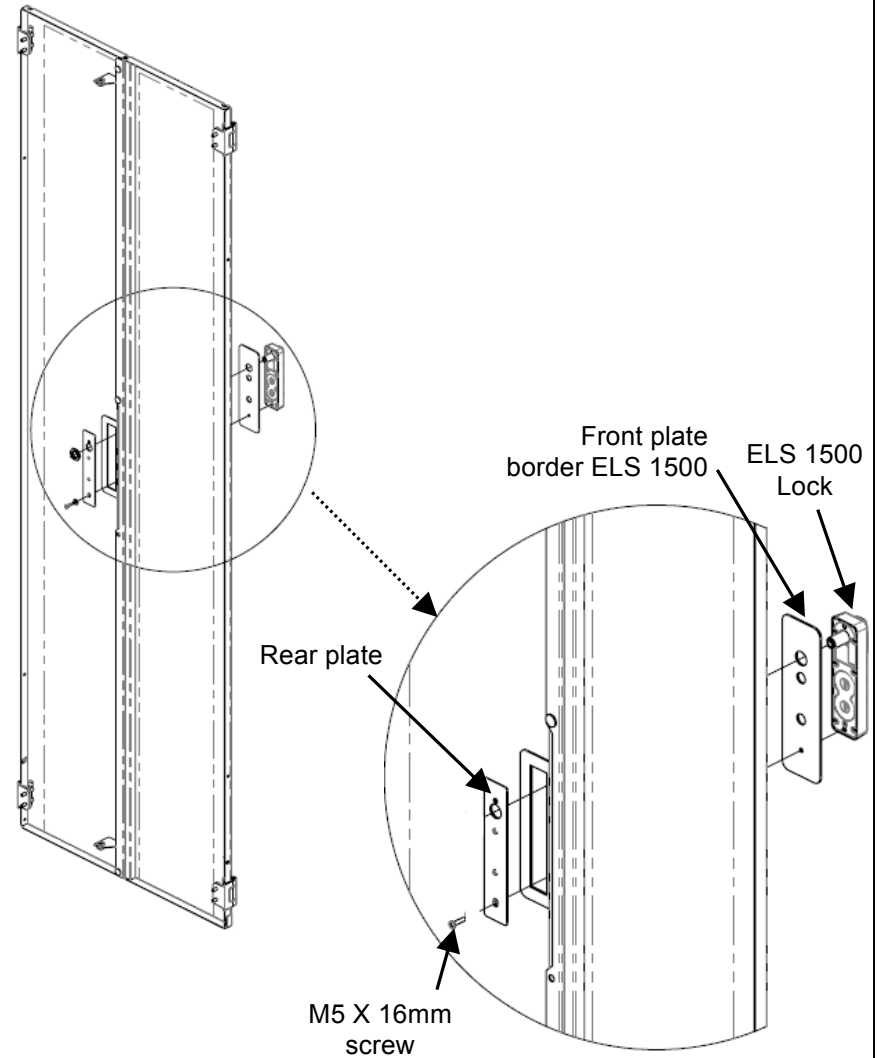

Fig. 5
2. Place the ELS1500 with the Front plate border on the double door with spindle orientation up (Fig. 5)
3. Position the Rear plate inside the double door over the latch cut-out and fasten to the lock with M5X16mm screw (Fig. 5).